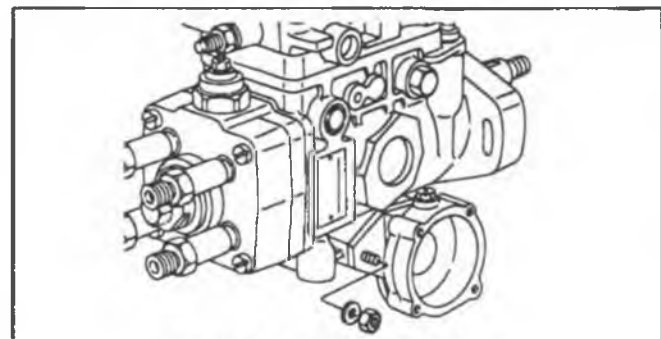

Fig. 4-35 CSD Housing Removal
7. Remove the two housing securing nuts and remove the housing and "O" ring (Fig. 4-35).